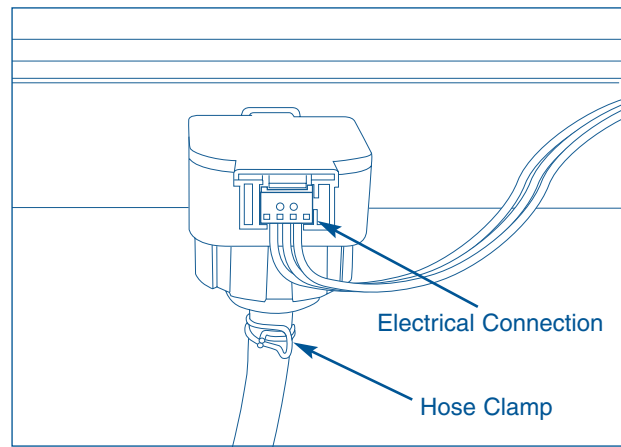

Figure 4-46.
2. Disconnect the wire harness from the sensor. (See Figure 4-46)